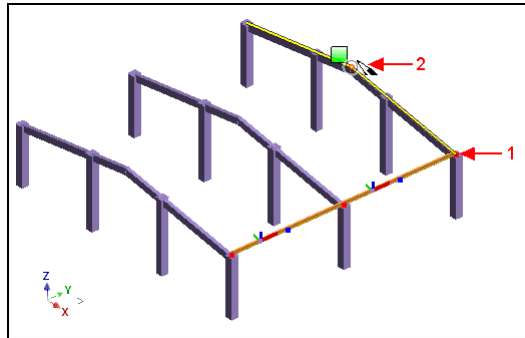

Figure 74: Specifying the copy coordinates
- In the “Vector” category, click . Specify the direction and the distance by snapping to the endpoints of a beam (Figure 74).